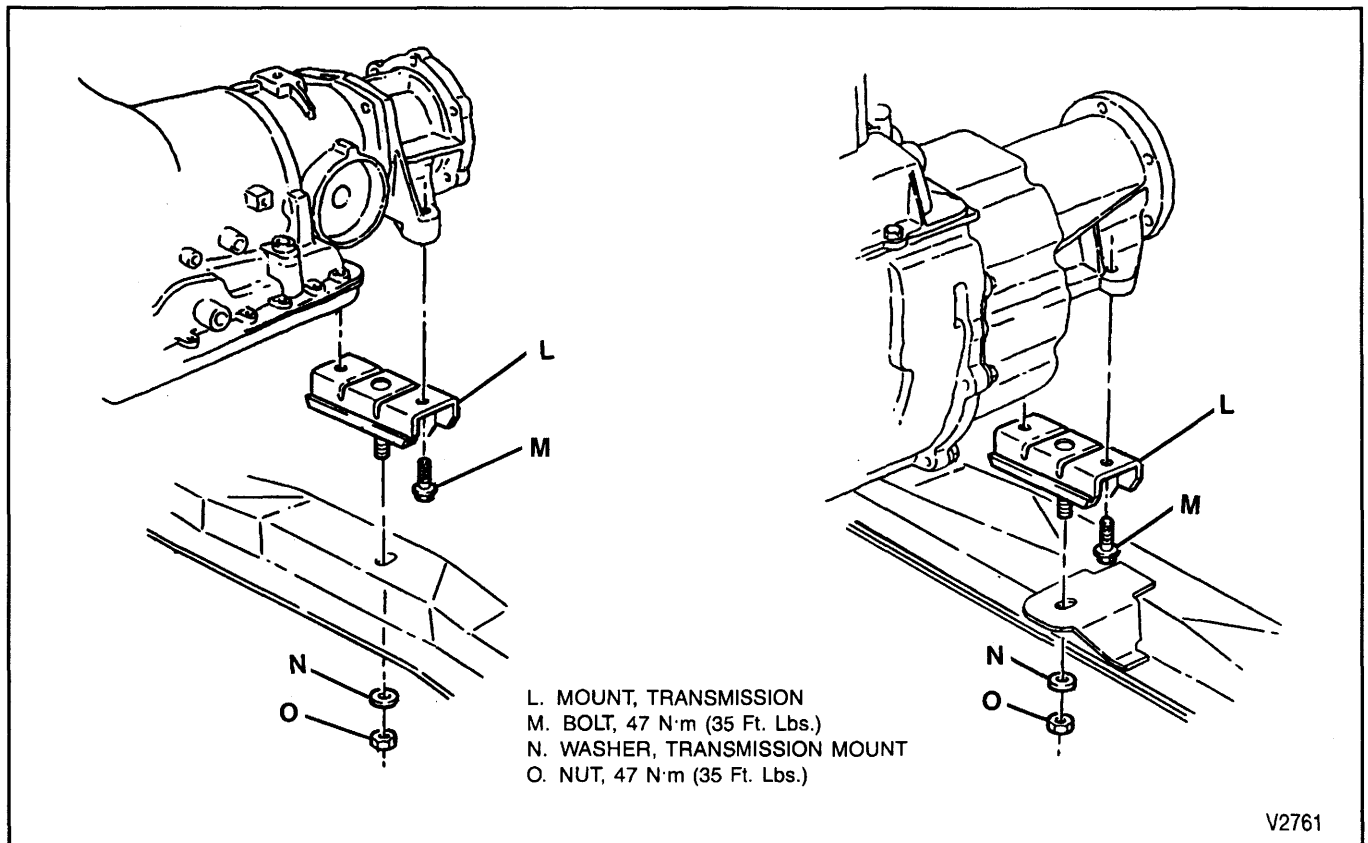

Figure 38—Rear Mounting (2WD Models)
Remove or Disconnect (Figure 38 or 39)
Install or Connect (Figure 38 or 39)
- Fasteners to specifications. Refer to legends on figures 38 and 39.